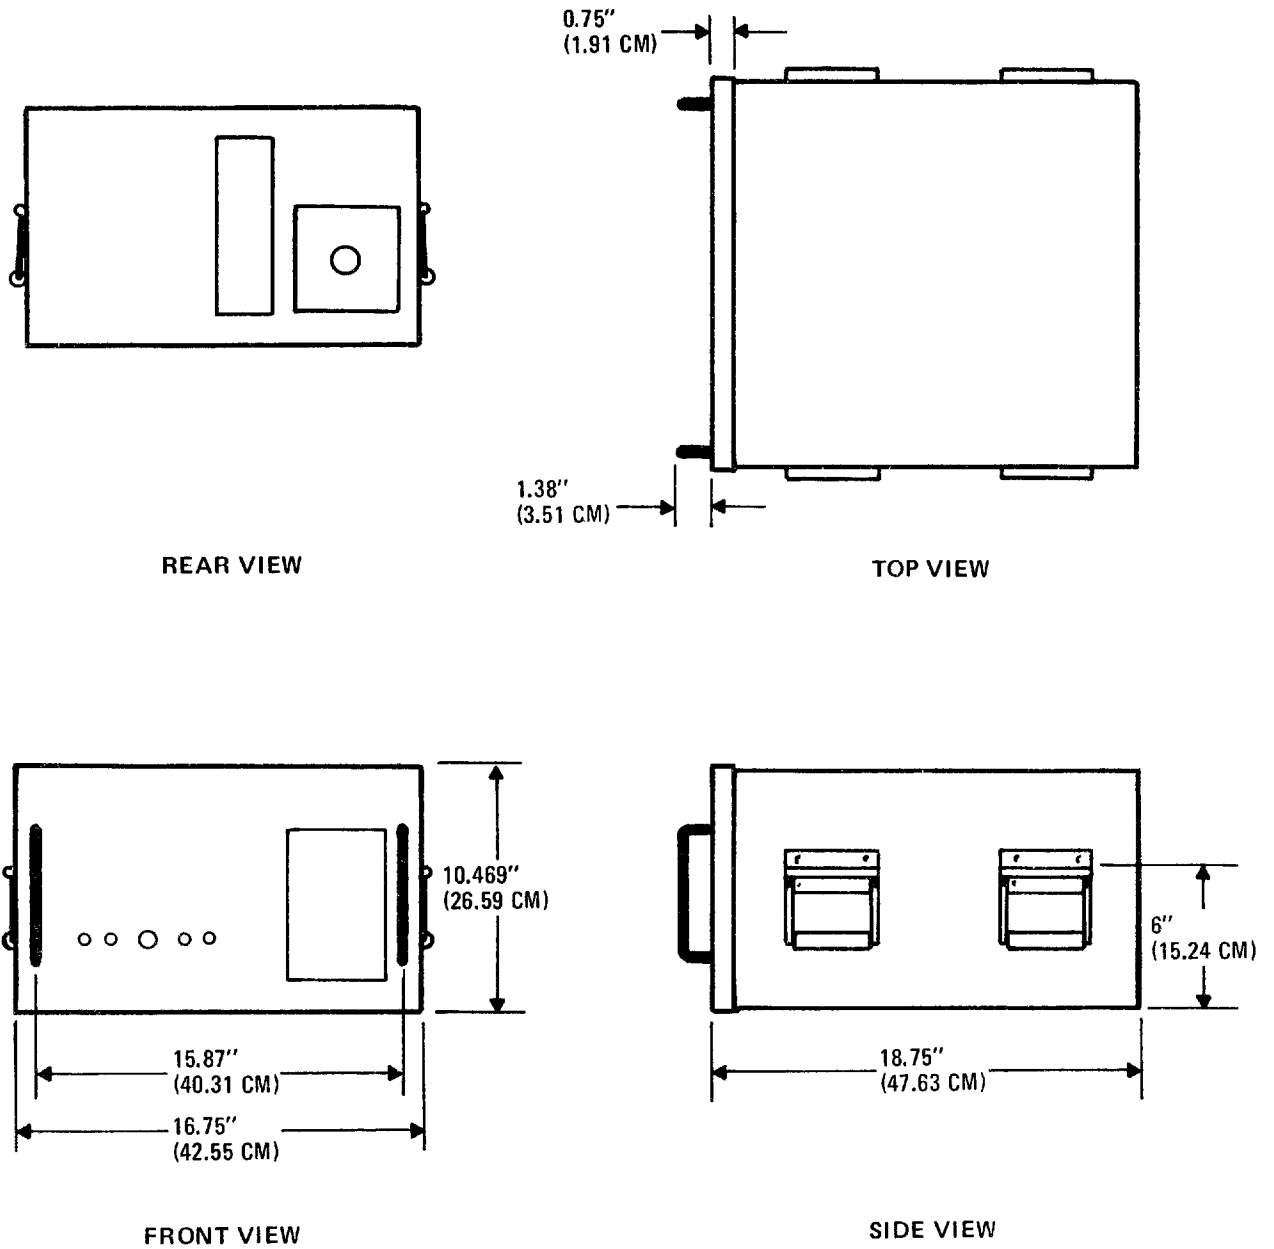

Figure 2-4. Dimensions
2-5. 1KW POWER SUPPLY MOUNTING INSTRUCTIONS. The exact method of mounting the 1KW Power Supply depends upon the type of installation selected. Refer to figure 2-4 for 1KW Power Supply dimensions. Make sure that the mounting surface allows adequate room for the 1KW Power Supply and has proper clearance for cable interconnection.
- a. Refer to figure 2-4 for the 1KW Power Supply dimensions. Make sure that the mounting surface allows adequate room for ventilation intakes and outlets, and has proper clearance for cable interconnection.